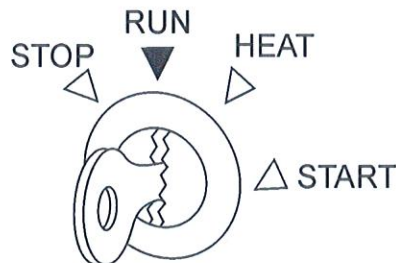

Figure 18. Starter Switch
1. Insert the key into the starter switch (Figure 18) and turn it to the "RUN" position. Check to see that the oil pressure and charge lights on the "Warning Lamp Unit Display" are lit. If either light is not lit, check the system and wiring (refer to the Engine Operation Manual).